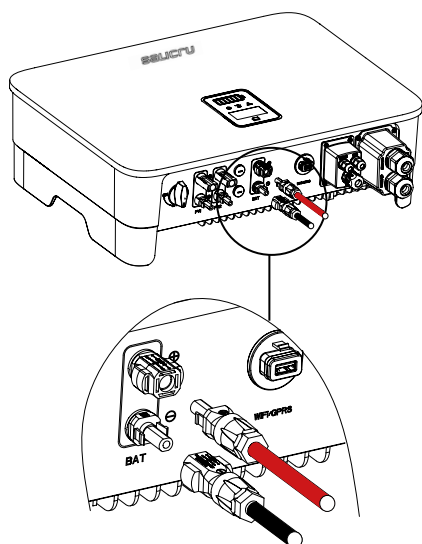

Fig. 49. Connecting the battery.
6. Insert the positive and negative connectors into the respective inverter battery terminals. A "click" will ensure correct assembly, as shown in Fig. 49.